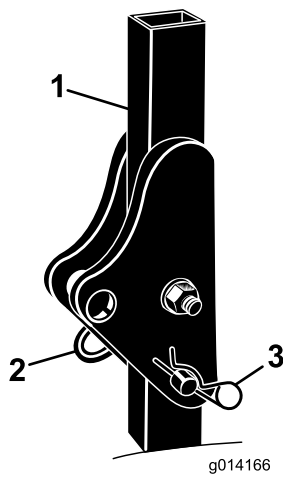

Figure 5
1. Remove the hairpin cotter pins and the pins from the roll bar (Figure 5).
2. Raise the roll bar to the upright position and install the two pins and secure them with the hairpin cotter pins (Figure 5).